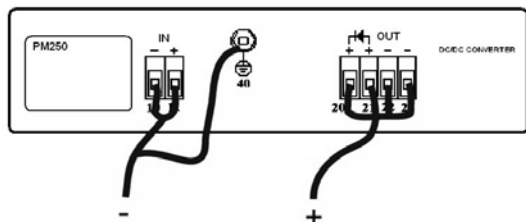

Figure 6. Output to case isolation voltage test.
- Connect your isolation tester between output and case. See *Figure 6*. Raise the voltage of the isolation tester from 0 to 2000Vd.c. Check that the leakage current does not exceed 5 $\mu\text{A}$ . The voltage should not be applied for more than a few seconds or the Y-capacitors might be damaged.